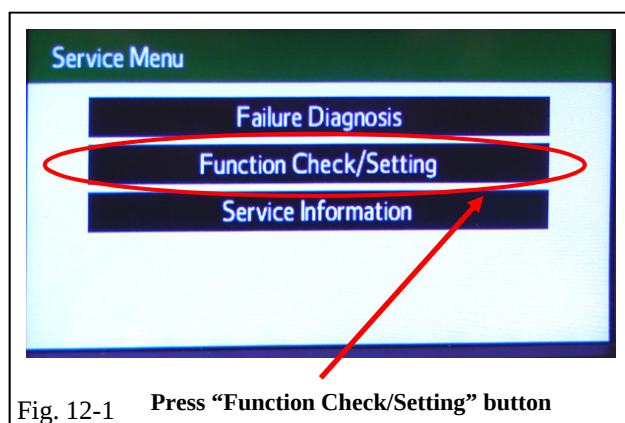

Fig. 12-1 Press “Function Check/Setting” button
- (a) Press the “Function Check/Setting” button (Fig. 12-1).